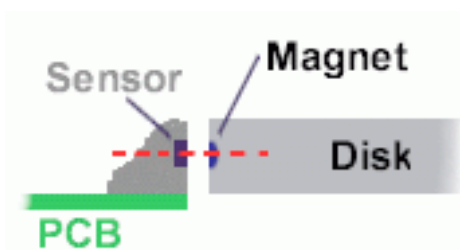

Figure 3 Ensure correct alignment of magnet disk and sensor.
- Take care that the magnets in the disk are approximately in the same height as the sensor, see figure 3.